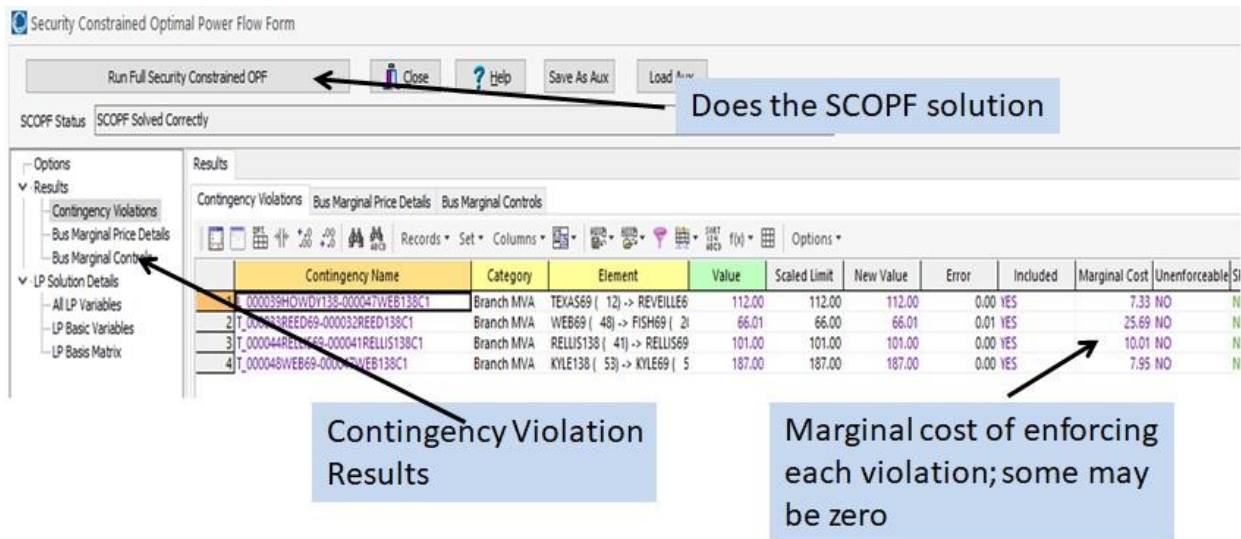

Figure 3: SCOPF Form
2. Perform an SCOPF solution at this load level. To do this, select **Add Ons, SCOPF** to display the SCOPF form. Select the **Run Full Security Constrained OPF** to perform an SCOPF solution. If desired you can keep this form open. From the oneline record the initial Total Load, Hourly Cost, Losses, and Average LMP. Also, after the SCOPF solution look at the Contingency Violations page of the SCOPF from and record the number of contingency constraints with non-zero marginal costs. An example of this is shown in Figure 3. Because of tolerances in the solution, the marginal costs might change slightly if you were to repeat a solution with the same load scalar.